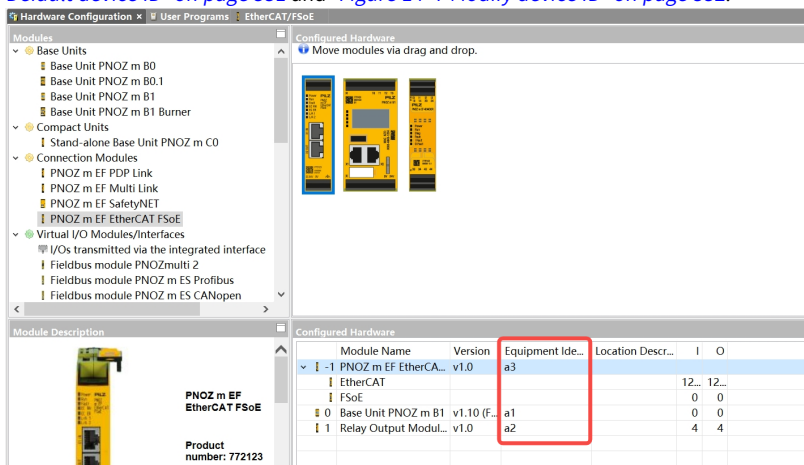

Figure 14-6 Default device ID
- f. To facilitate user program writing, it is recommended to modify the device ID in the configured hardware list at the bottom of the interface, as shown in "Figure 14-6 Default device ID" on page 331 and "Figure 14-7 Modify device ID" on page 332.